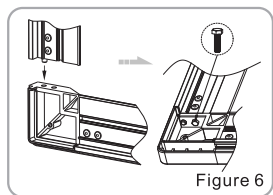
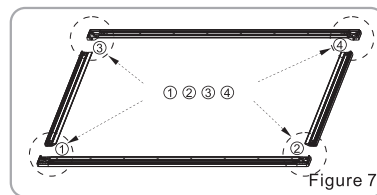

Figure 6
Figure 7
3. Align the corner connector screws to the corner connector screw holes (see figure 6). Fasten hexagonal screws according to the priority as shown in the figure 7.